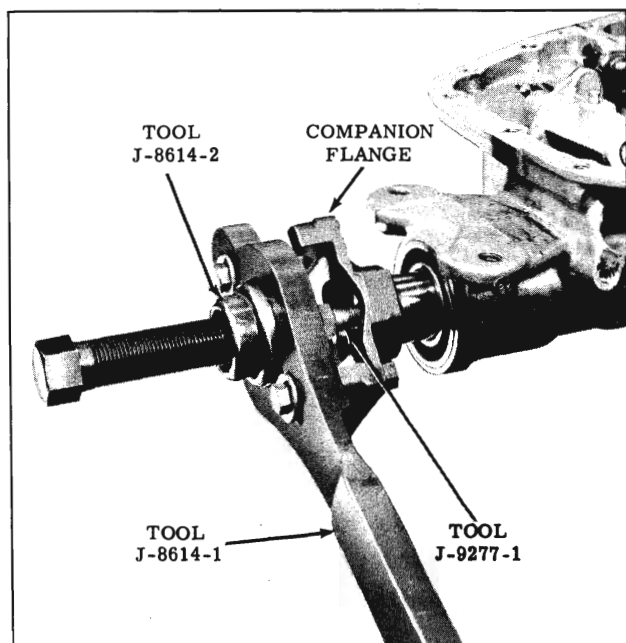

Fig. 3-230 Removing Companion Flange
21. Engage the parking pawl to hold output shaft and remove the companion flange attaching bolt, and companion flange using Tool J-8614. (Fig. 3-230)